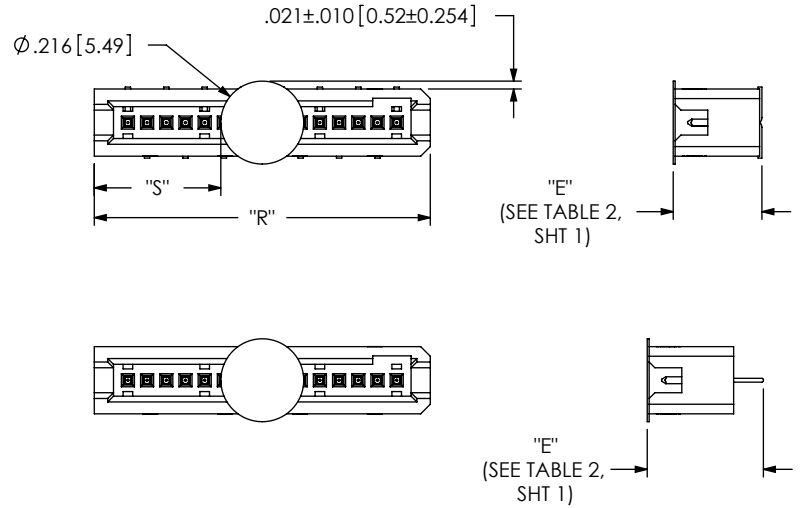

FIG 3
-K: POLYIMIDE FILM (SEE FIG 3, SHEET 2) (USE K-DOT-.217-.313-.005)